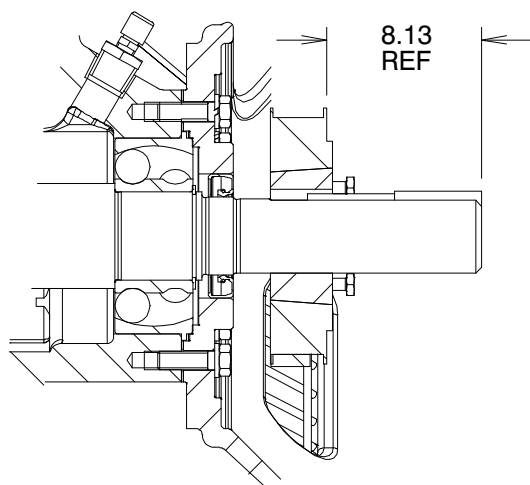

Figure 10. Drive Sprocket Positioning
Install the key (33, Figure 4) in the shaft keyway, making sure to leave room in the keyway for the drive key (28, Figure 4). Install the sprocket (24, Figure 3) and bushing (23, Figure 3) on the shaft to the dimension shown in Figure 10.